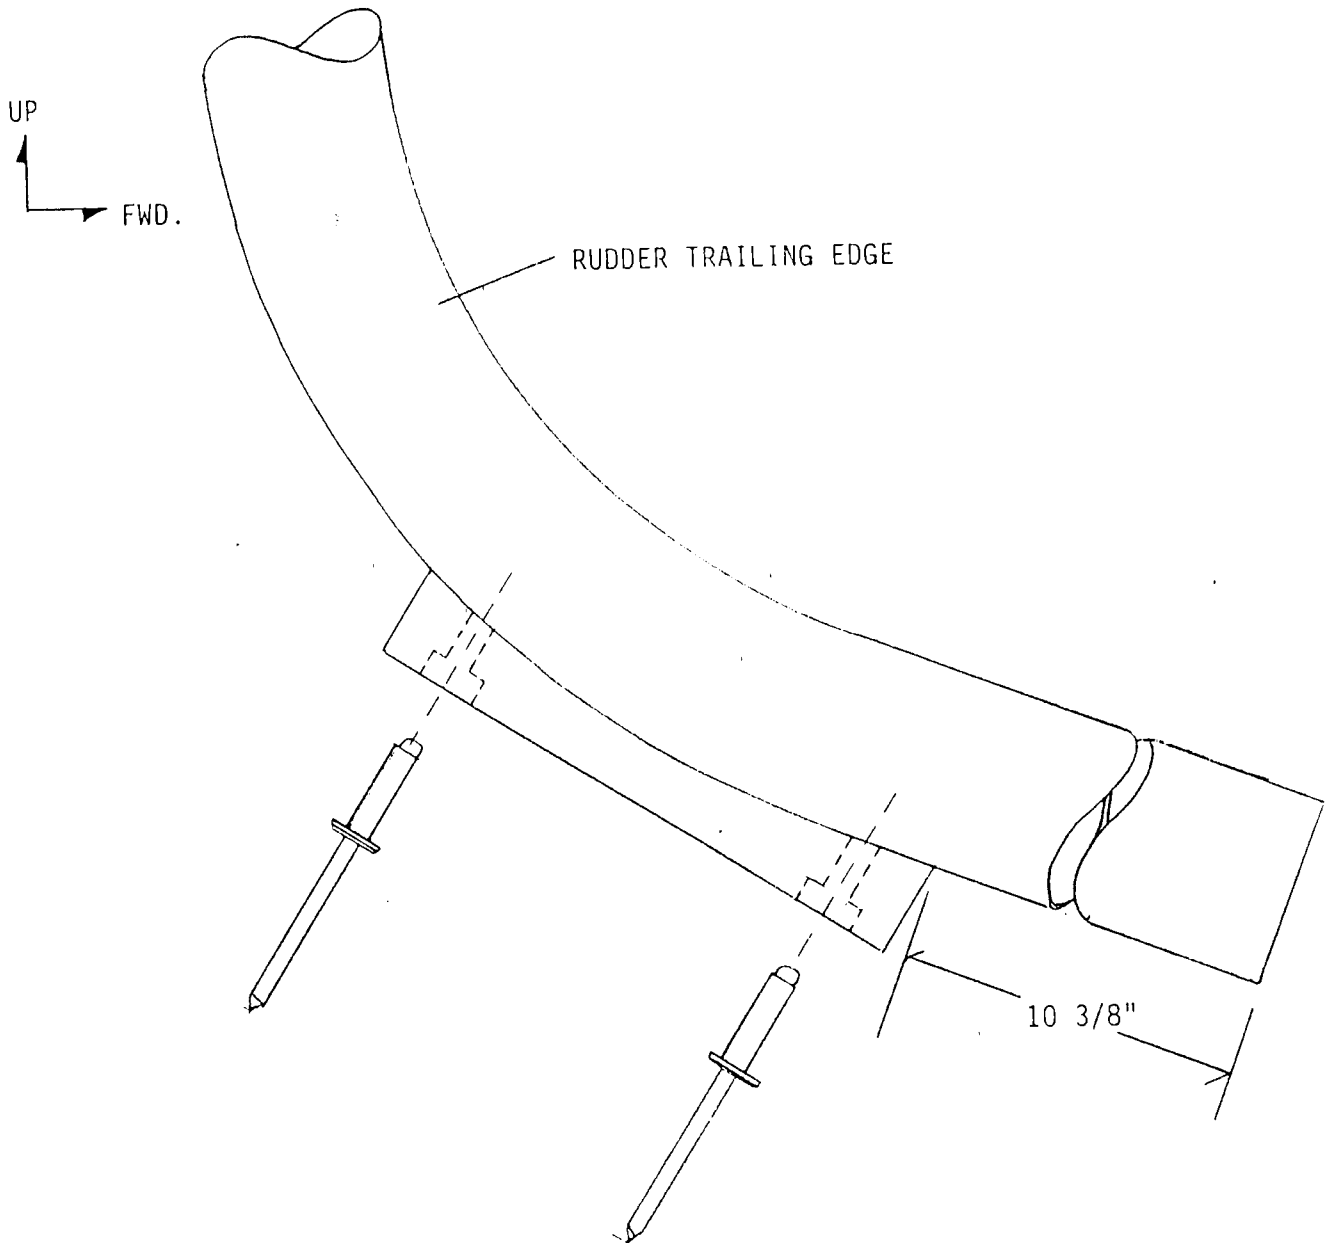

FIGURE 023-04
4. Assembly and skinning of the rudder is shown in the following diagrams. The tool illustrated on page 4 can be very helpful in assembly. Build these if you plan on doing more than one aircraft. Otherwise sticks, ropes and whatever can be used to the same effect. Shape and attach a rub block to the bottom of the rudder as shown in Figure 023-04.